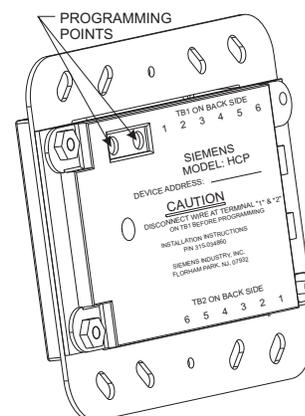

Figure 1
- Plug the programming cable of the DPU Programmer/Tester into the two-pin programming points on the HCP. (See Figure 1 for location.)